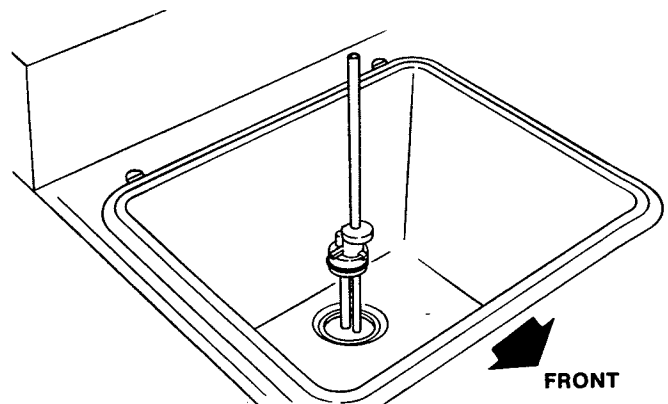

Figure 17. Removing Mix Inlet Regulator
- A. Remove the mix inlet regulator from the hopper by pulling straight up (Fig. 17).